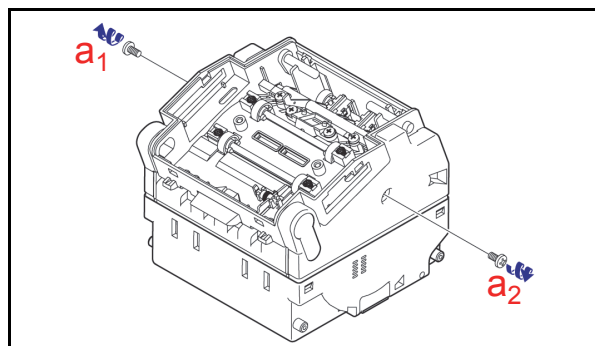

Figure 4-6 Taiko Side Mounting Screw Removals
2. Remove the two (2) Side Panel Mounting Screws from the both the left and right side of the Taiko™ Unit (See Figure 4-6 a₁ & a₂).